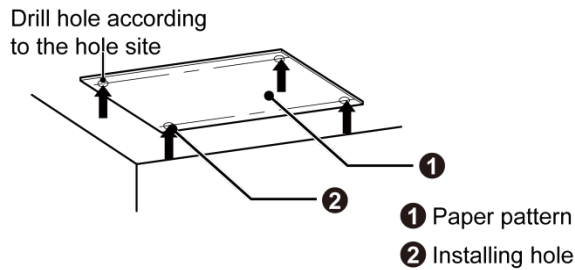
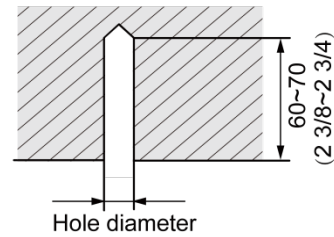

Fig.4.1.2
Fig.4.1.3
1) Stick the paper pattern on the installation position; drill 4 holes according to the hole site on the cardboard as shown in Fig.4.1.2; diameter of drilling hole is according to the diameter of expansion bolt and the depth is 60~70mm(2-3/8~2-3/4inch), as shown in Fig.4.1.3.